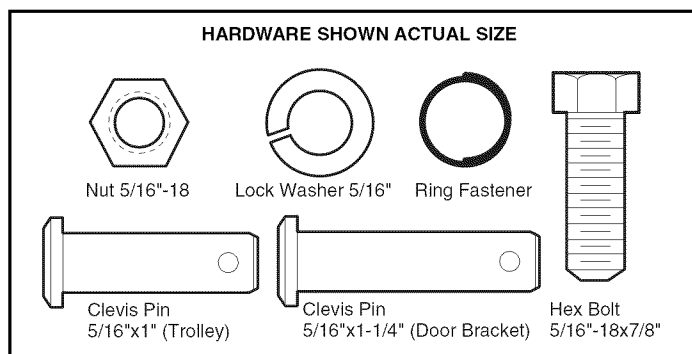

Figure 3
• Figure 3, Hole alignment alternative: